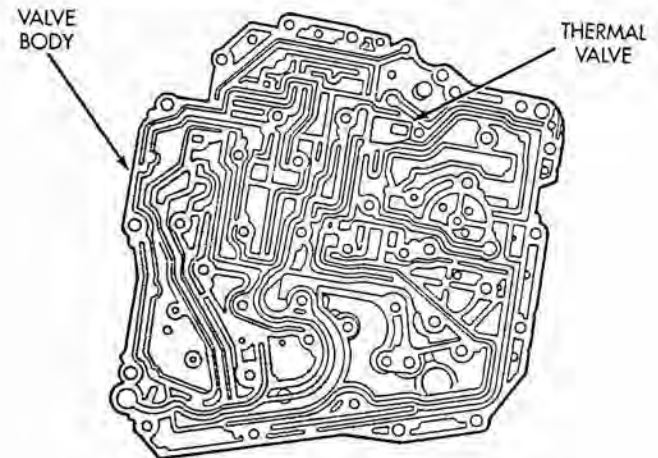

Fig. 12 Thermal Valve Location
(5) Remove 2/4 accumulator retaining plate screws.
(6) Remove thermal valve (Fig. 12).